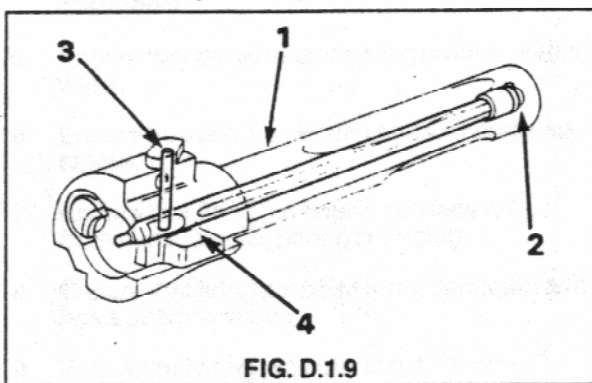

FIG. D.1.9
10. When assembling the firing pin to the bolt, ensure that the machined cut out in the firing pin is aligned with the retaining pin locating hole in the bolt. If they are not aligned the retaining pin will not enter fully. The outside diameter of the rubber bush fitted to the rear of the firing pin is slightly larger than the diameter of the recess in the rear of the bolt. When fitting the firing pin, compress the rubber bush slightly with the thumb and index finger before pushing it home. The rear of the firing pin will protrude slightly from the rear of the bolt after it is pushed in completely. See Fig. D.1.9